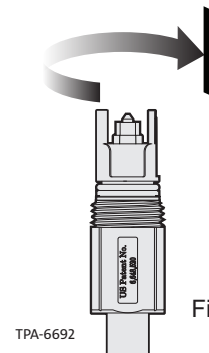

Figure 15
Step 2: Place the converter housing over the Pushlok® connector. Screw the converter onto the connector clockwise, until it hits a hard stop and will not screw on any further. (Figure 15)